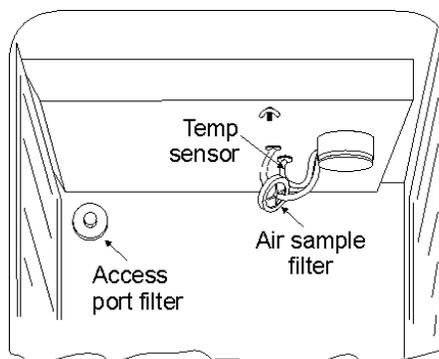

Figure 4-1
2. Remove the shelves, access port filter and side duct sheets. Remove the temperature sensors and the air sample filter tubing from the back of the blower scroll. Refer to Figure 4-1.